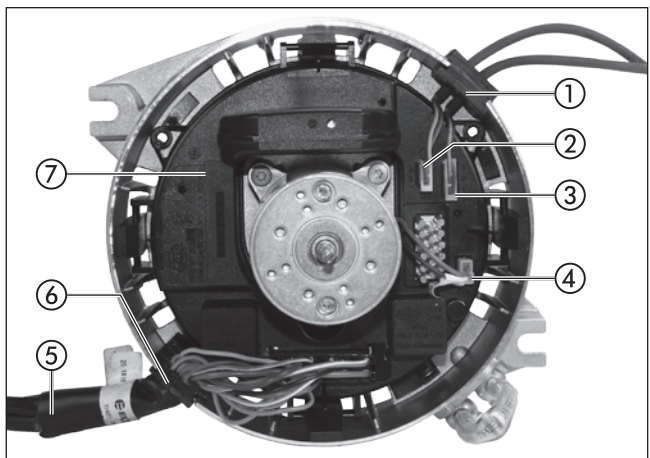

Figure 5
## Dismantling the control box (see Figure 5 and 6)
**Dismantling the burner motor** (see Figure 5, 7 and 8)